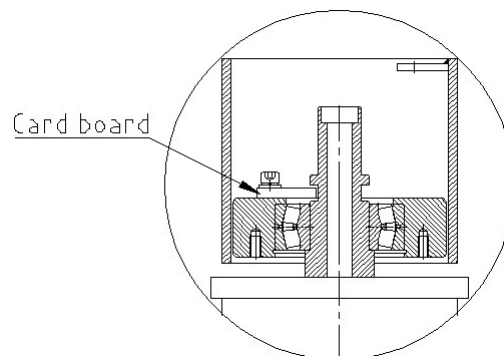

Figure 6-1-1
- b. Insert the jib swivel into the column rotation axis (Figure. 6-1-1).